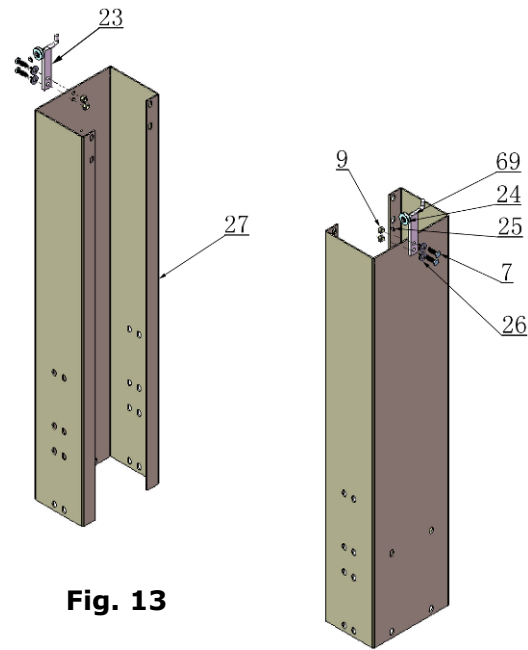

Fig. 13
D. Install parts of extension columns (See Fig. 13).